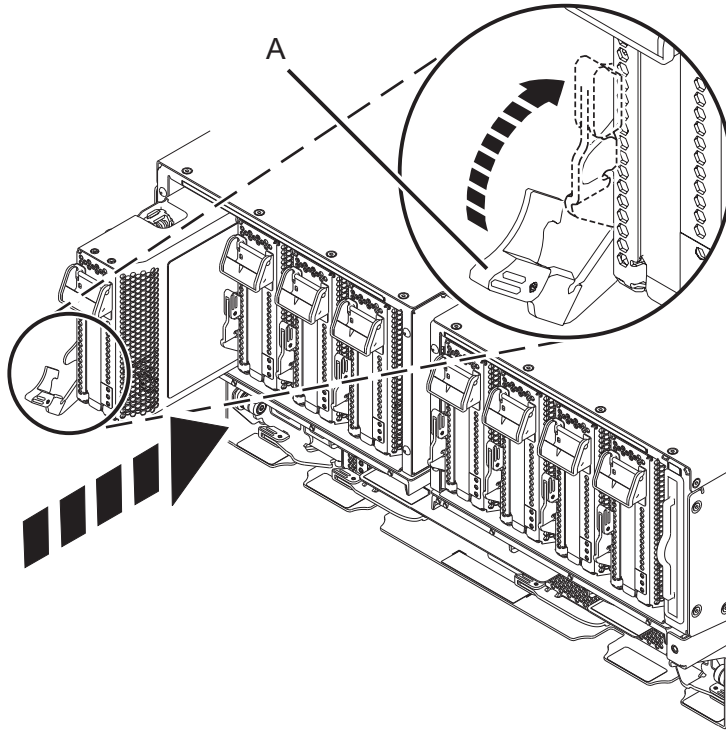

Figure 21. Installing a PCIe adapter cassette in the system
- a. With the cassette handle (A) in the open position, carefully grasp the adapter cassette by its edges, and then align the adapter cassette with the slot. See Figure 21 on page 20.
- c. When the cassette is fully inserted into the slot, rotate the terracotta cassette handle (A) in the direction that is shown in Figure 21 on page 20 to lock the adapter cassette in the slot.